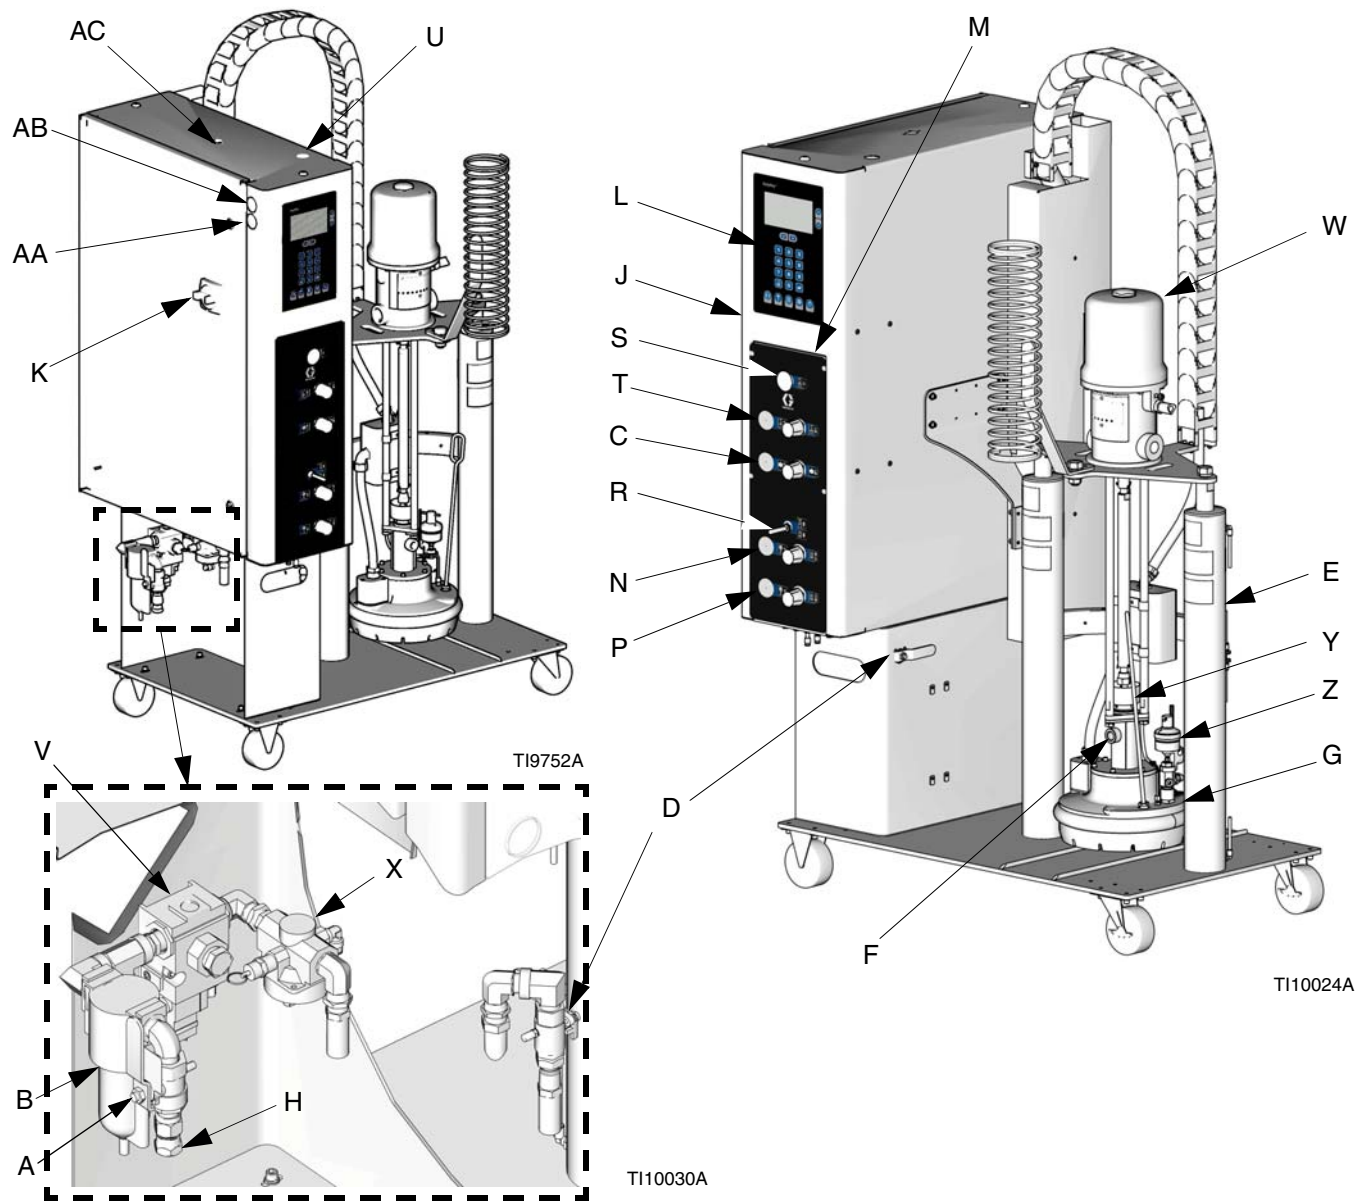

FIG. 1: Component Identification
Before installing the system you should be familiar with all the Therm-O-Flow system components. See FIG. 1. Contact your Graco distributor for help in designing a system to suit your particular needs.
The following components are included with the unit. See FIG. 1.
The pneumatic control panel includes the following. See FIG. 1.
5. Connect a 1/2 in. (13 mm) air line from an air source to the system air inlet, see FIG. 1, page 7, letter (H) capable of delivering a minimum of 15 cfm (0.4 m³/m) at 100 psi (0.7 MPa, 7.0 bar). **Do not use quick disconnects.**